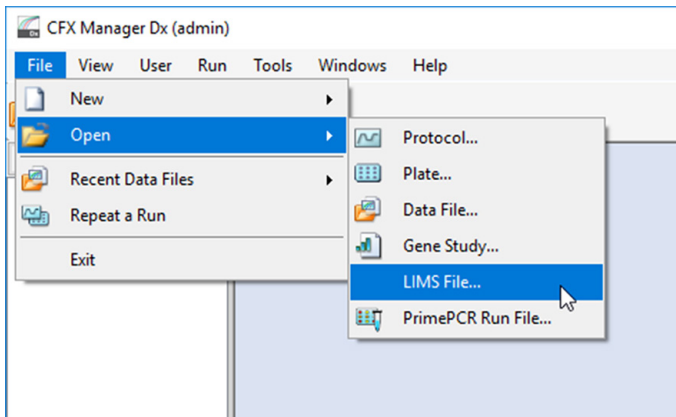

Figure 25: CFX Manager™ Dx software window
3. In the menu bar of the CFX Manager™ Dx software select **File** → **Open** → **LIMS File...** to open the **Open LIMS File** dialog (see Figure 25).